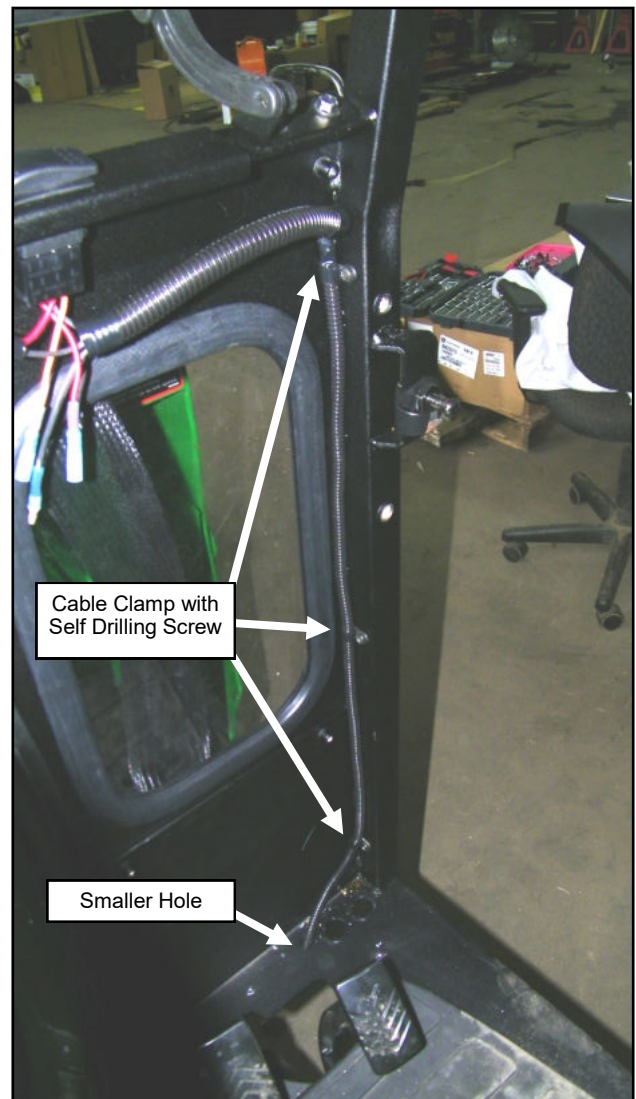

Fig. 15.5 (Secure Wire Harness)
- 15.5** Thread the wiring harness through the smaller hole in the floor board. See figure 15.5.
- 15.6** Taking up slack as you work your way down, secure the wiring harness to the A-pillar with p-clips and self-drilling screws. See figure 15.5. Clean up metal shavings afterward.